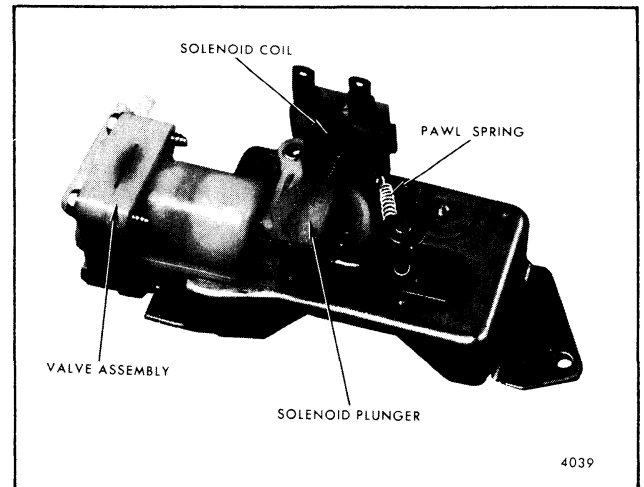

Fig. 2-62-Washer Assembly Internal Gear
1. The spring loaded solenoid plunger pushes through an opening in the rim of the ratchet wheel. As the plunger moves through the opening, it pushes the ratchet pawl away from the ratchet teeth (Fig. 2-62).